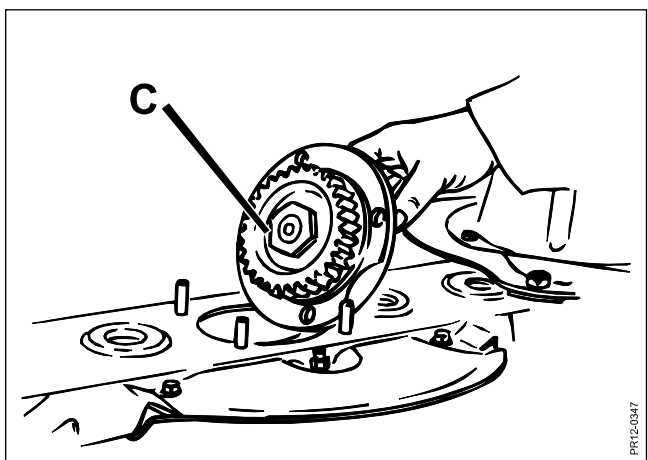

Fig. 5-10
- Fig. 5-10 A cutter bar is used on which each hub **C** below the discs is easily replaced from above (Top Service cutter bar).